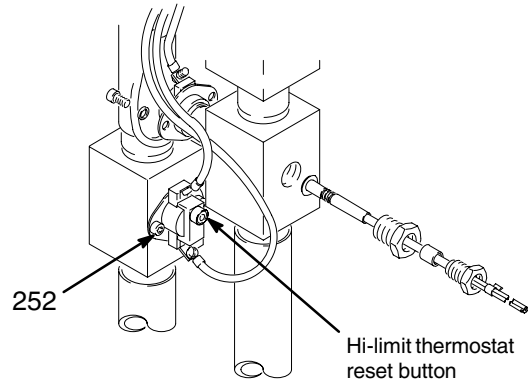

Fig. 14
2. Remove the front heater shroud (238). See page 39.
3. Disconnect the wires to the thermostat (252). See Fig. 14.
8. Be sure the reset button is pushed in. See Fig. 14.
9. Reinstall the heater shroud (238).